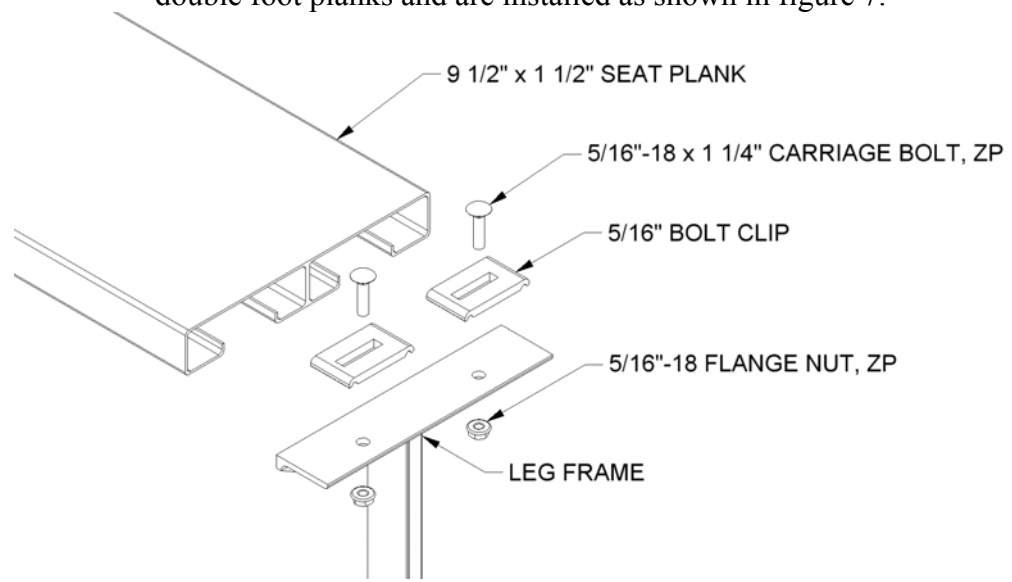
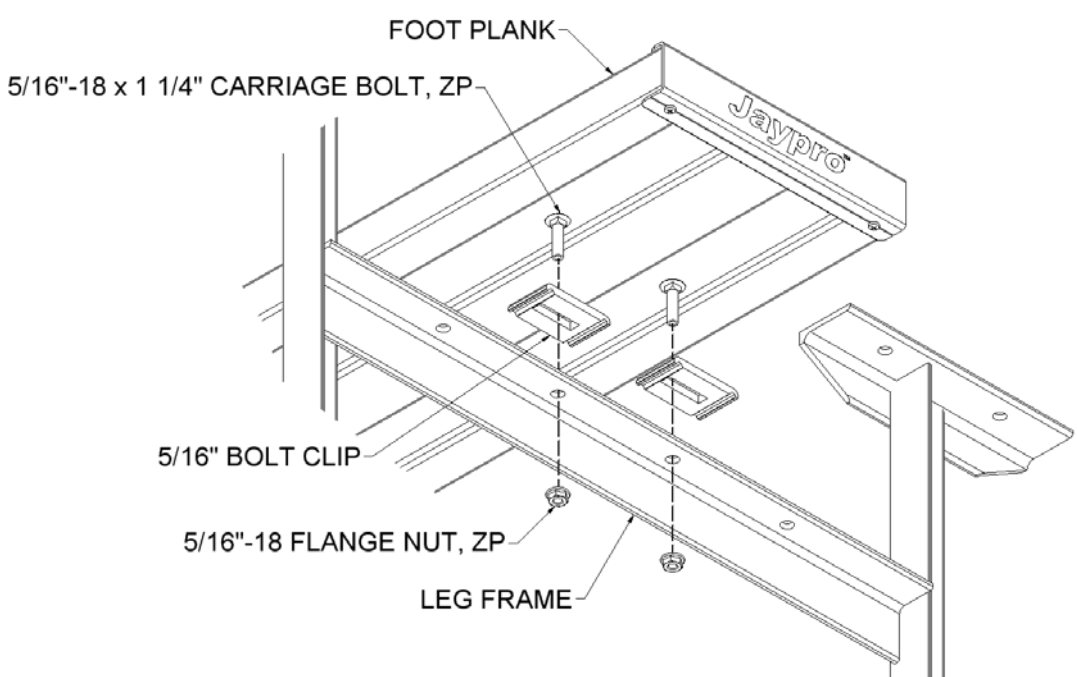
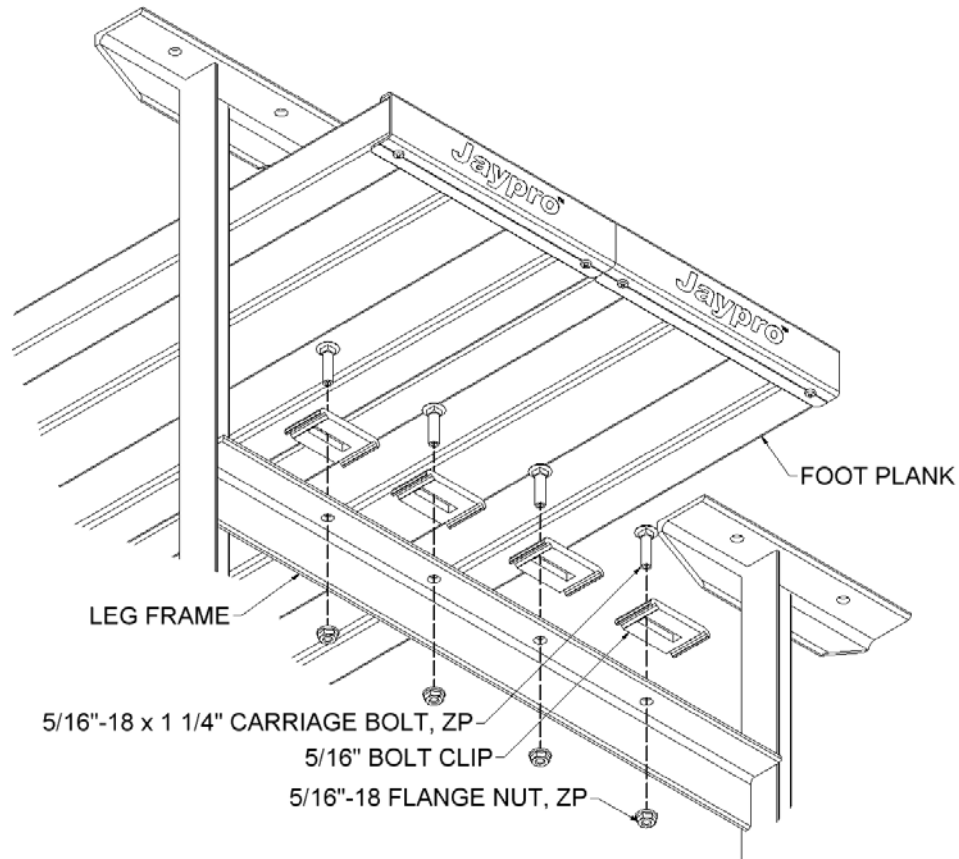

FIGURE: 5
FIGURE: 6
FIGURE: 7
5. Making sure the undercarriage frame is square and plumb, install the seat and foot planks. The seat and foot planks are best installed starting from the front seat and working towards the back. Use the hardware and bolt clip as shown in figure 5. Position planks so they are centered on the frame, with equal amount of overhang on each end. Note that standard bleacher (BLCH-221TRG) have a single foot plank, which is centered on the support frame, see figure 6. Preferred bleacher (BLDP-221TRG) have double foot planks and are installed as shown in figure 7.